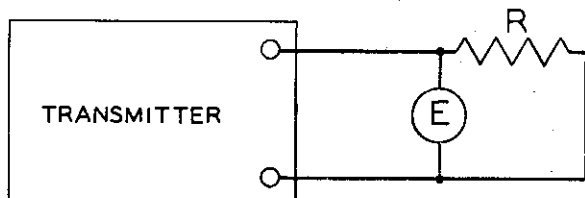

Fig. 2-1. E^2/R Method of Power Measurement
a. The power dissipated in a resistor is given by the relation $W = E^2/R$, where E is voltage across resistance R and is shown in Fig. 2-1. One of the oldest methods of measuring transmitter power at low radio frequencies depends upon this relationship.
(1) The voltmeter E of Fig. 2-1 may be equipped with a direct-reading scale in watts, for use with a definite load resistance R. This scale would be linear in watts if the voltmeter were of the square law type similar to thermocouple or iron vane meters.